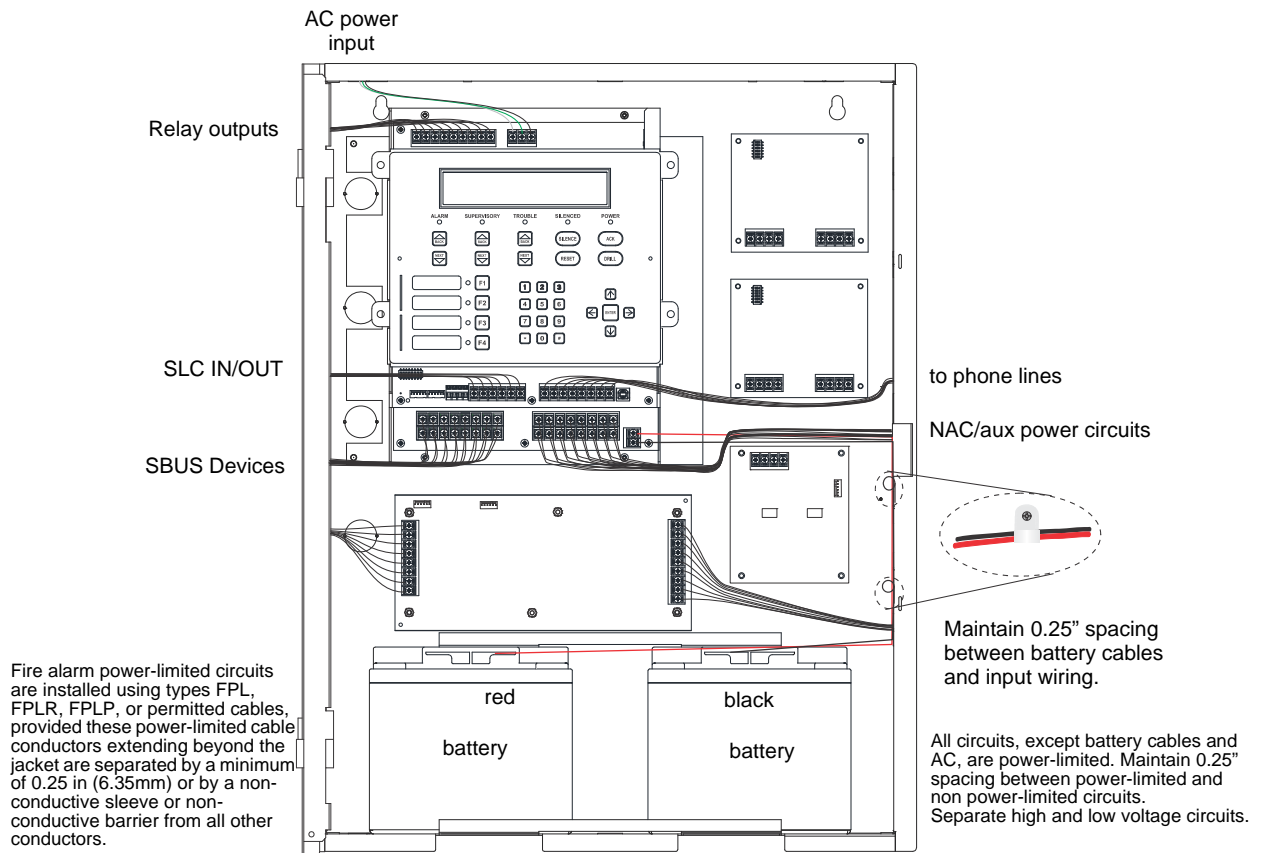

Figure 4.4 Wire Routing Example for TR-2100ECS
- Route the wiring around the inside perimeter of the cabinet. It should not cross the circuit board where it could induce noise into the sensitive microelectronics or pick up unwanted RF noise from the high speed circuits. See Figure 4.4 for an example.
NOTE: Figure 4.4 is an example of how the wire connections can be routed. However, any other cabinet knock-outs (on either the main control panel or the RBB/AB-55 cabinet), that are not previously being used may be utilized to connect conduit between the two cabinets.